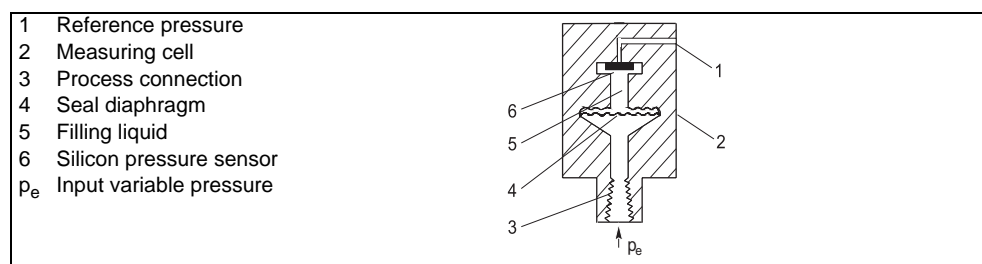

Figure 6 Pressure measuring cell, functional diagram
The pressure p_e is fed in through the process connection (see (3) Figure 6, page 18) of the measuring cell (2). It is passed further through the seal diaphragm (4) and the filling liquid (5) to the silicon pressure sensor (6) and its measuring diaphragm flexes as a result. Four piezo-resistors in bridge circuit doped in the measuring diaphragm change their resistance as a result. The change in resistance causes a bridge output voltage proportional to the input pressure.